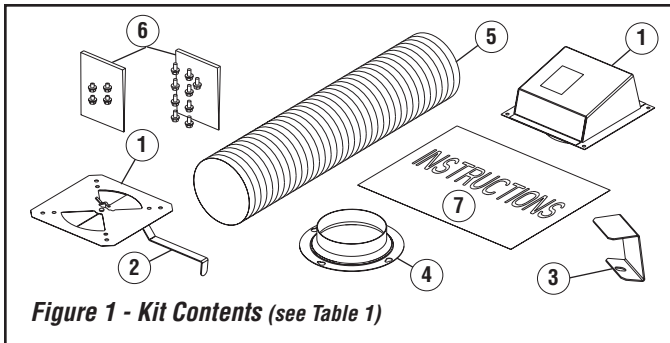

Figure 1 - Kit Contents (see Table 1)
Table 1 - Refer to Figure 1
5. Secure the air gate arm support bracket (item #3 in **Figure 1**) as shown in **Figure 9**.
6. Secure the outside air collar (item #4 in **Figure 1**) as shown in **Figure 10**.